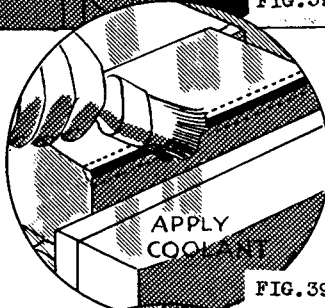

FIG. 395
5. Apply a little coolant to the surface with a brush. This will help preserve the cutting edge of the tool and will produce a smooth, bright surface (Fig. 395). Cast iron is machined dry.